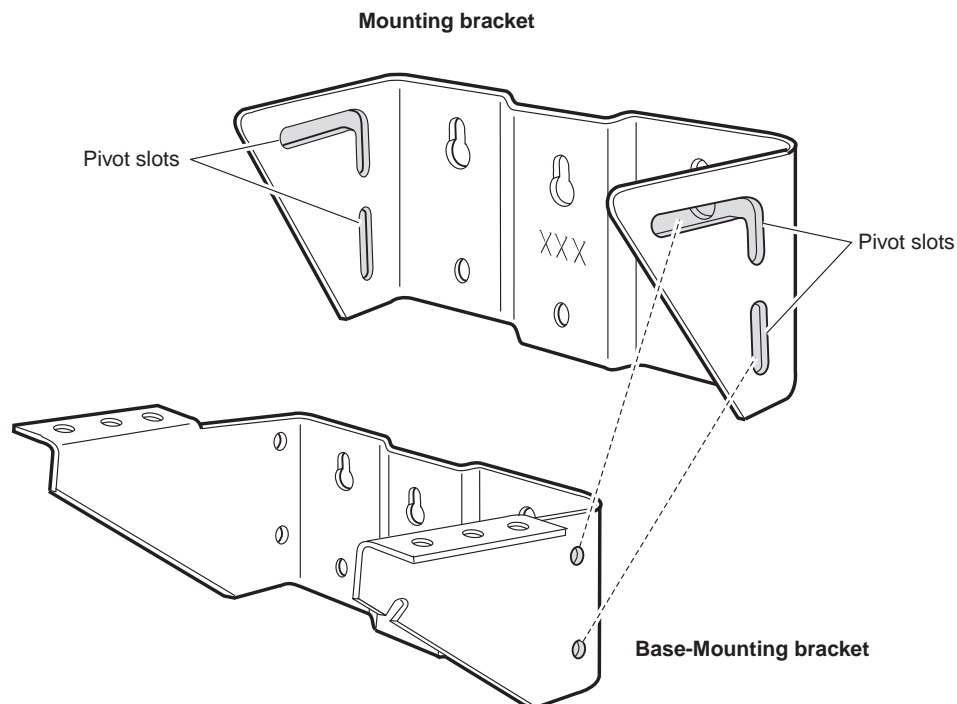

Figure 4. *Pivot-Mounting Bracket*
Figure 4 below shows the mounting brackets.
- 2 Remove the mounting bracket from the HRE-712 by removing the four bolts that connect each sideplate as shown in Figure 4 on page 7.
This procedure describes how to mount the enclosure on a pole with a diameter greater than 7 inches (17.78 cm). Figure 4 on page 7 shows the mounting bracket.
- 2 Remove the enclosure base mounting bracket from the mounting bracket by removing the four bolts that connect each side plate shown in Figure 4 on page 7.
This procedure describes how to mount the enclosure on a flat surface. You must allow room for enough top clearance to remove the cover. Allow at least 5 inches (12.7 cm) of clearance above the dome, if the 31° tilt feature is used. Allow at least 13 inches (33.1 cm) of clearance, if the tilt feature is not used. Figure 4 on page 7 shows the mounting bracket.
- 2 Remove the enclosure base mounting bracket by removing the four bolts that connect each side plate, as shown in Figure 4 on page 7.